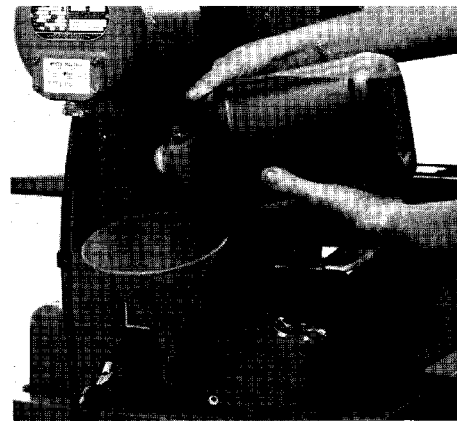

Figure 6
8.1 Fill lube oil reservoir through the oil cup at the rear of the machine (Fig. 6) from the gallon container furnished (about 36 oz. or 4-1/2 cups are required). The oil cup should be nearly full. It will take about eight minutes for the oil to reach the sight glass at the top of the column the first time the pump is turned on because of air in the pump.